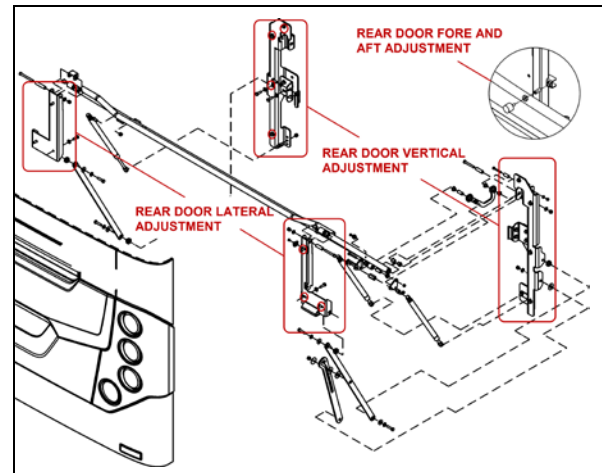

FIGURE 106: ENGINE COMPARTMENT DOOR
1. To adjust the door VERTICAL position, loosen the bolts (4 on each side) holding the door supporting arm and gas springs bracket to the vehicle structure (Figure 106).
2. To adjust the door LATERAL position, loosen the bolts (3 on each side) holding the door supporting arm and gas springs bracket to the door (Figure 106).
3. Adjust the door FORE & AFT position by screwing/unscrewing the rubber door stops on each side of the door opening (Figure 106).